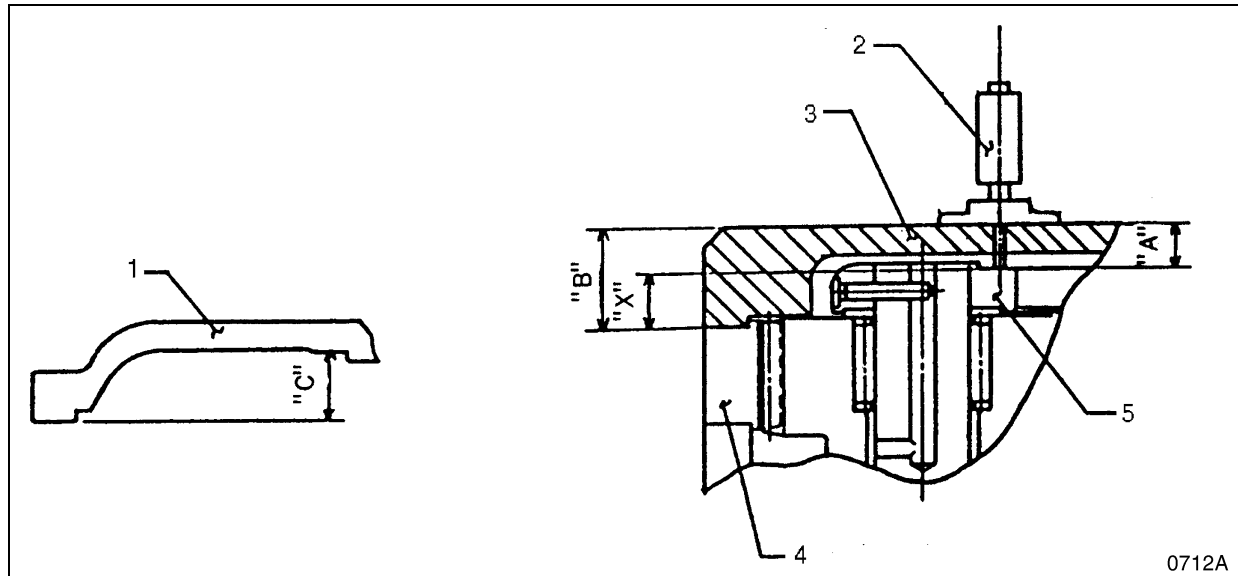

Figure 86
2. Calculate the required thickness by removing one of the two old thrust bearings, bolting up the assembly and measuring clearance using a depth indicator and testing jig, as shown in Figure 86 and Figure 87.
3. Keep the inner thrust bearing (20, between the carrier and coupling gear, Figure 13) in place and bolt up the assembly. Make sure that the sun gear (7), cap ring (19) and hub are installed and that the gear cluster (6) matches up with the outer ring gear (4, ring gear A). Install the testing jig on the outer ring gear and use the depth indicator to check clearance dimension A, as shown in Figure 86. Measure inset dimension C, shown in Figure 86. Determine clearance X by subtracting the measured clearance dimension A from the height of the testing jig B. Required thrust bearing thickness can then be determined by subtracting X from C.